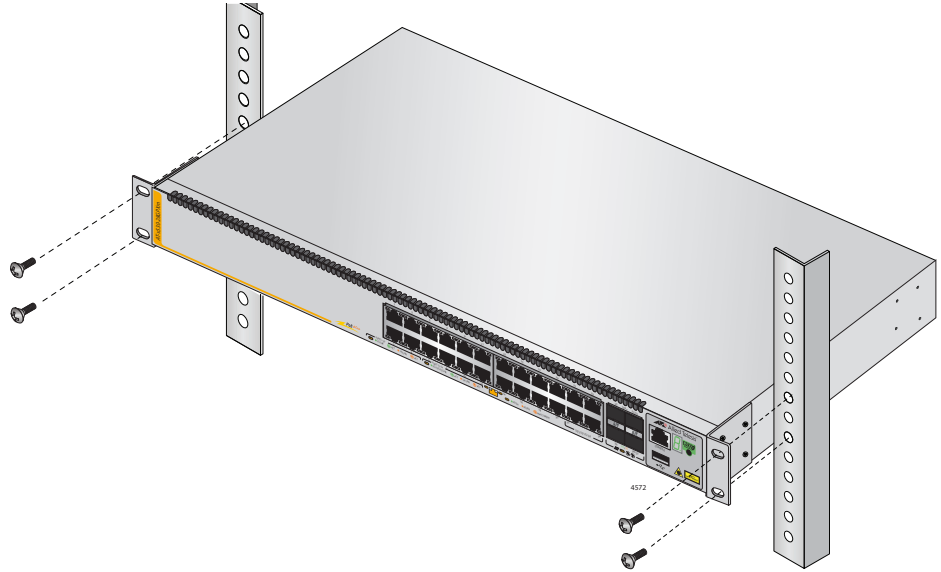

Figure 19. Installing the Switch in an Equipment Rack
3. Have another person hold the switch at the desired location in the equipment rack while you secure it using four standard equipment rack screws (not provided). Refer to Figure 19.